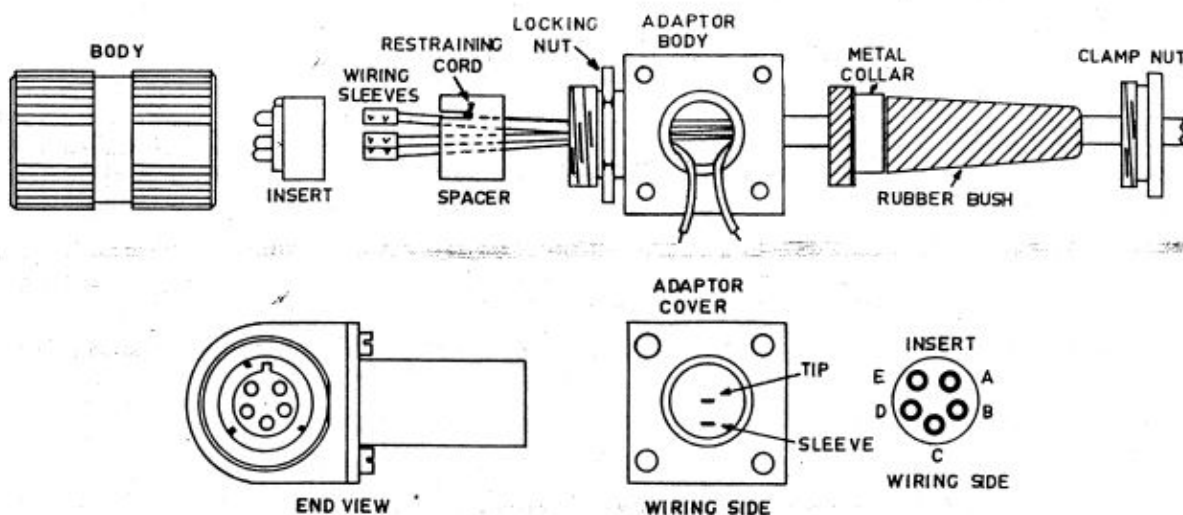

FIG 2 - FIVE PIN PLUG WITH ADAPTOR
32. The cable plug is similar to that used on the handset, except that an adaptor for the headset plug is mounted at the rear, between the body of the connector and the cable clamp. The adaptor carries a socket into which the miniature plug on the headset cable is inserted. The arrangement is shown in Fig 2 and the wiring connections are listed in Table 2.